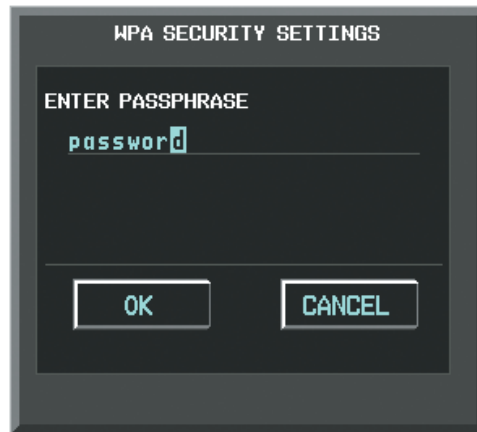

Figure 8-106 Enter Security Code
- 6) If the network is secured, a window similar to Figure 8-106 will be displayed in order to enter the necessary passcode. Use the **FMS** Knobs to enter the desired alpha numeric characters. Select the **CAP LOCK** Softkey to enter upper case letters. If there is no security associated with the network, proceed to step 9.